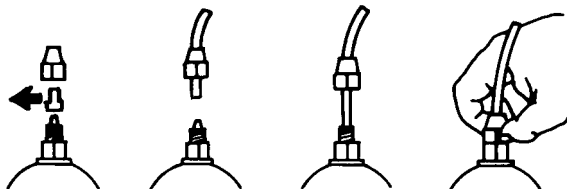

Fig. 7
- e. - Remove the protection caps from the two nipples, slide the hoses over the connectors, pushing them into the maximum, and then fix them with appropriate tube nuts. (Fig. 7).